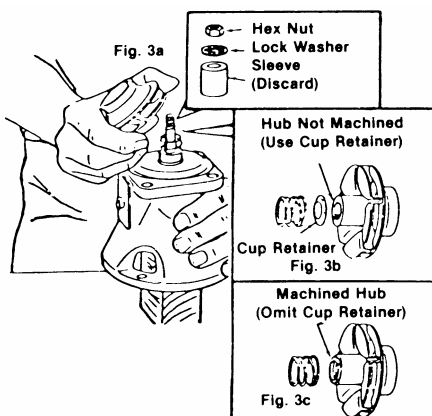

Fig 3. Installing Impeller on New Bearing Assembly
5. Position new Bearing Assembly on a wood block (Fig. 3) to force shaft upward while installing Impeller. Then install Impeller as follows: